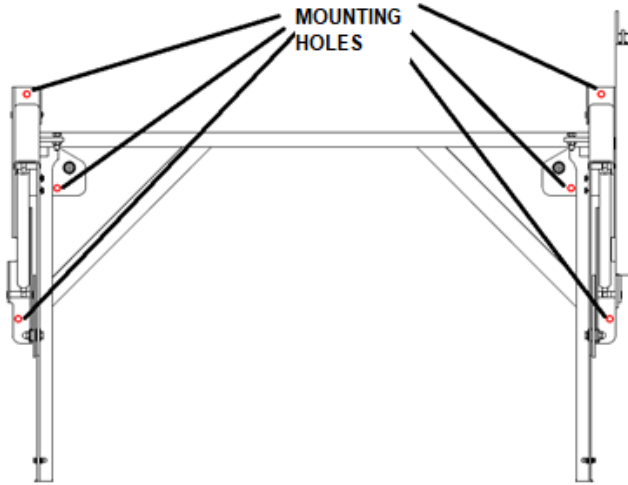

Fig.8. Mounting holes spacing
3. Drill holes in the ground as shown in Figure 8 (12mm diameter, 90mm drill depth).